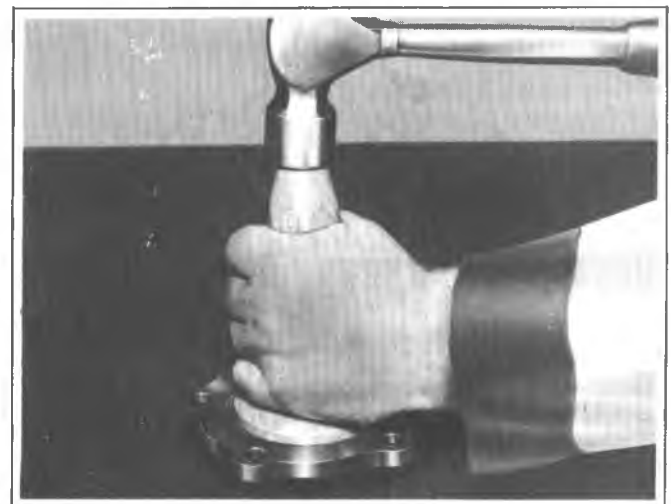

Fig. 4G—Pinion Oil Seal Installation
2. Press the oil seal into the retainer. Position seal lips toward the pinion bearing, using Tool J-22281 as shown in figure 4G.